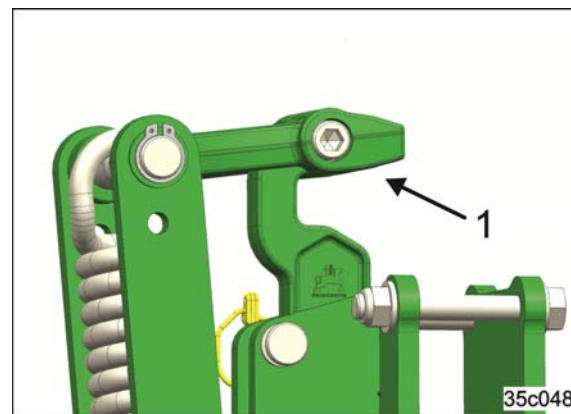

Fig. 121
The recessed grip (Fig. 121/1) serves to safely adjust the working depth.
2. Hold the tractor wheel mark eradicator by the recessed grips (Fig. 121/1).